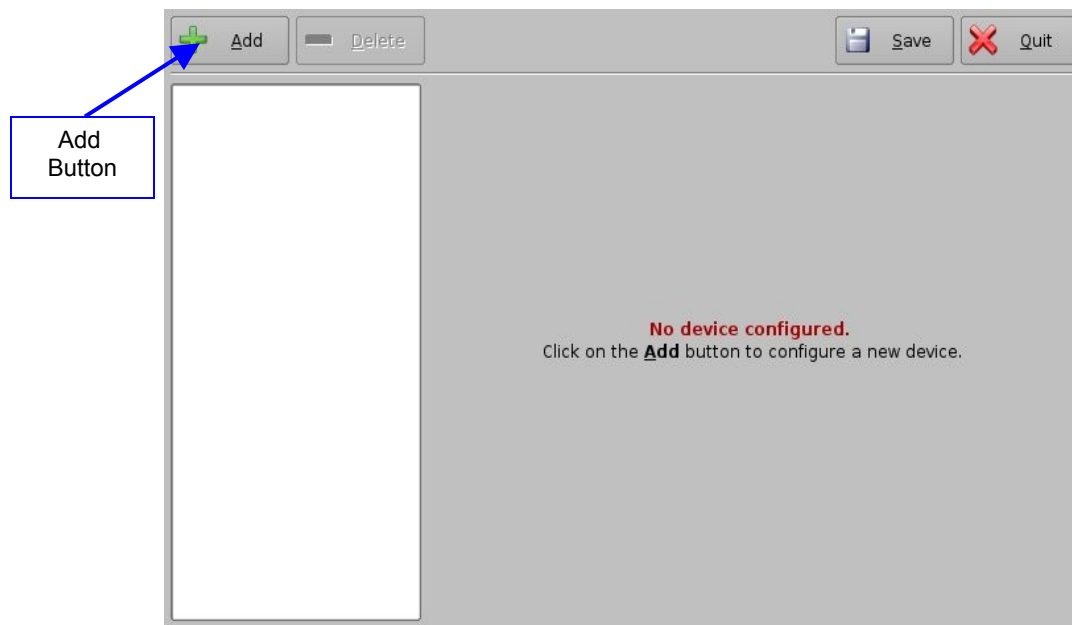

Figure 108: Device Manager GUI
- Click the Add button (Figure 108).